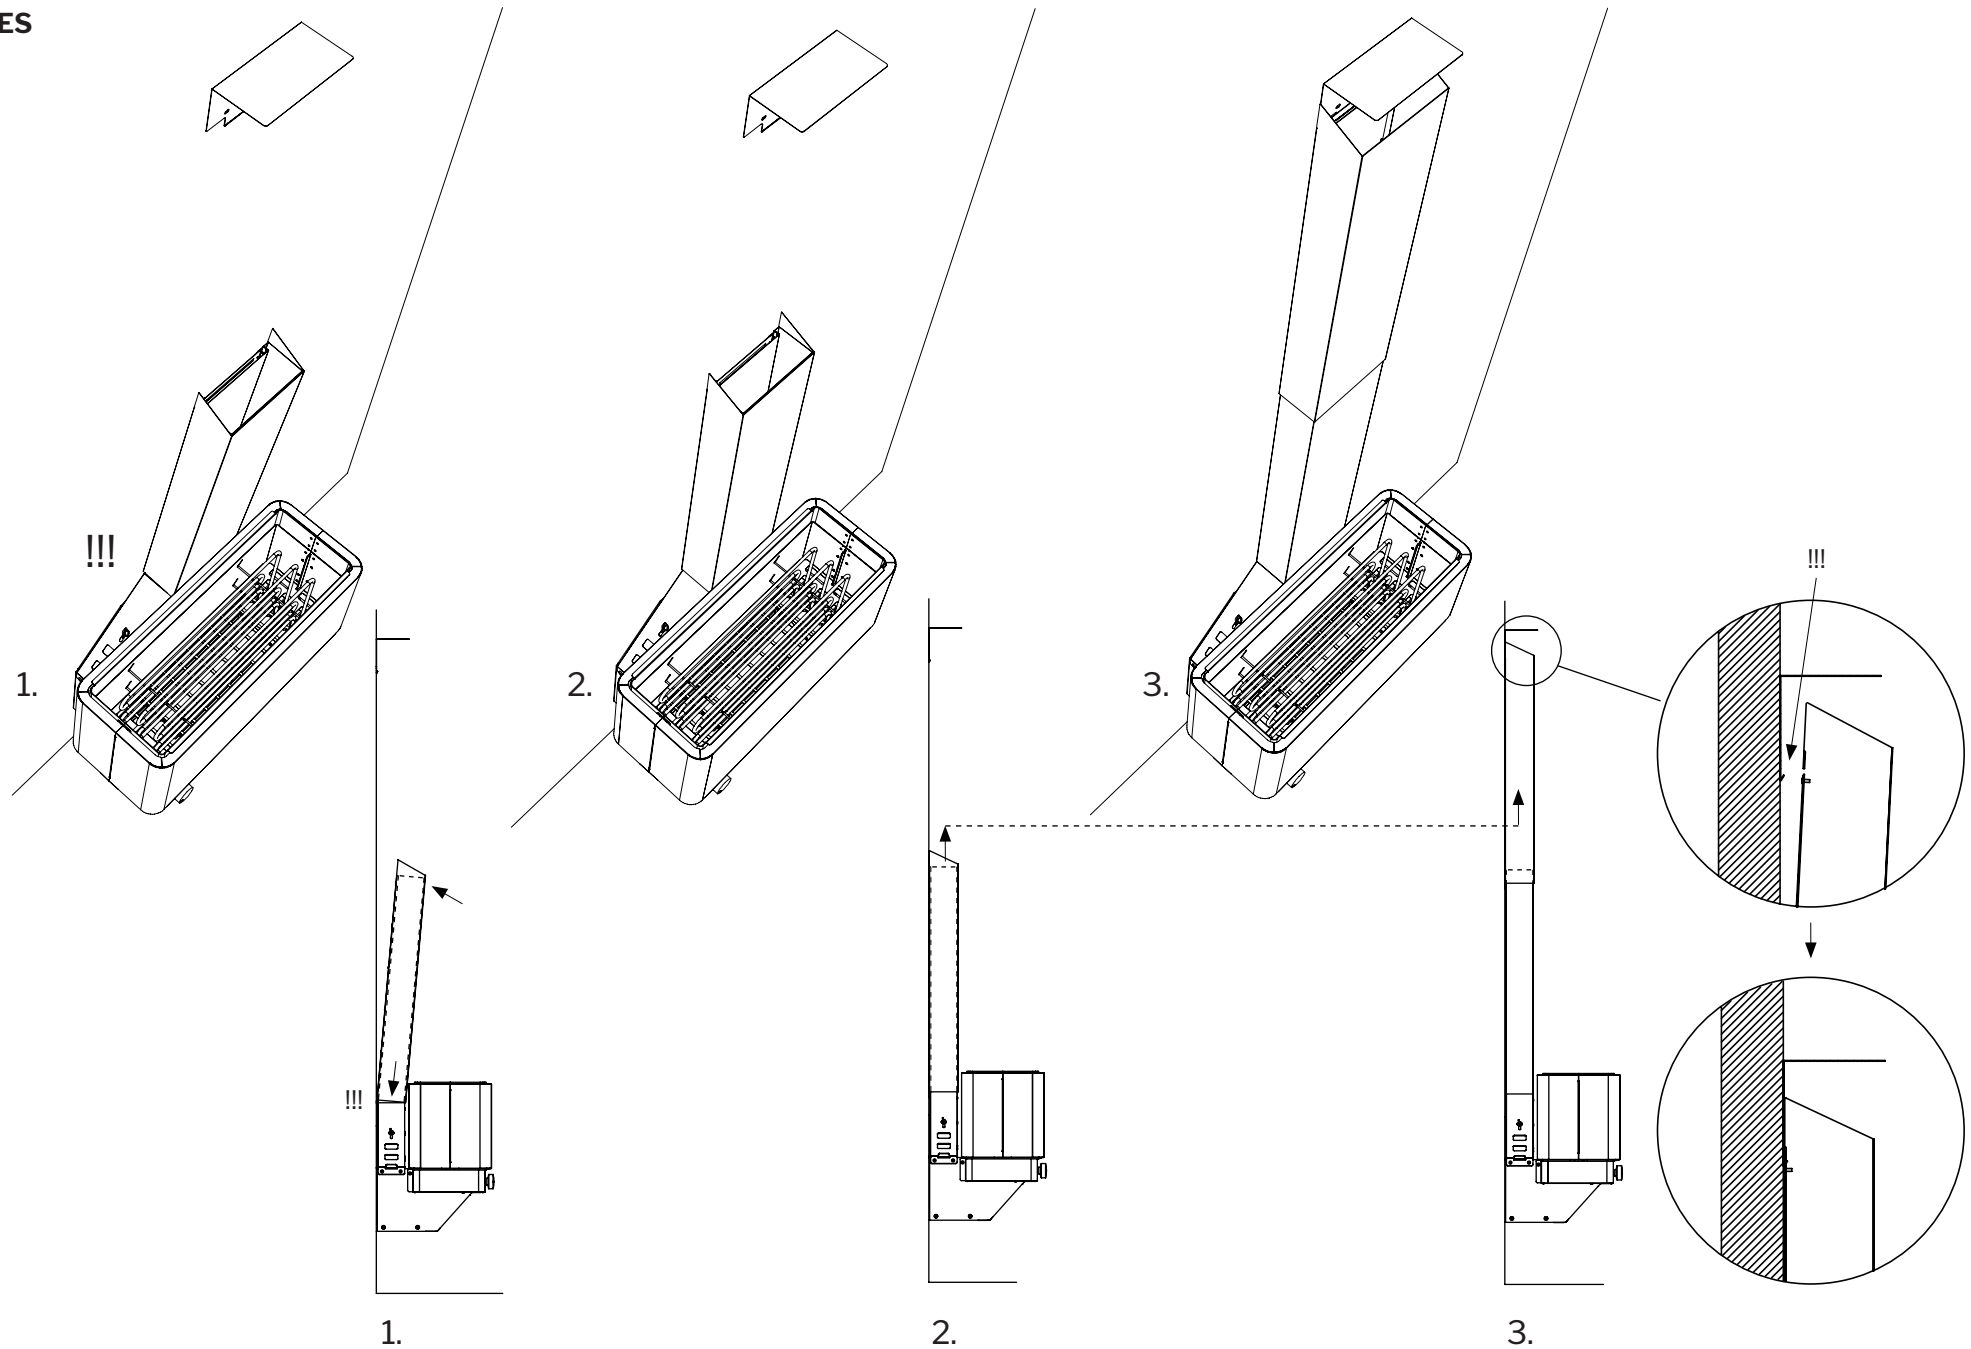

Figure 3.8: Fitting the flue to the flue socket and hanging it to the flue cap
- 3.2.8.** Hang the upper part of the flue to the flue cap so that the upper part of the flue is connected to the lower part of the flue (**Figure 3.8**).